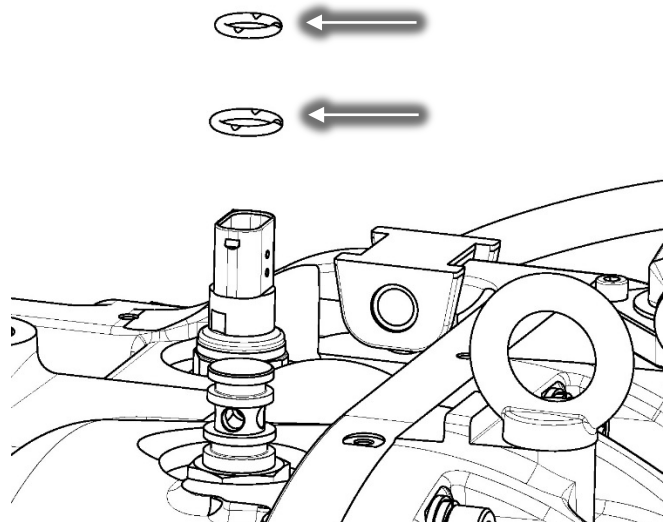

Figure 22 – SCR Manifold Brass Fitting O-ring Removal
31. Remove the two (2) O-rings from the SCR Manifold Return Brass Fitting. Refer to Figure 22 (SCR Manifold Return Brass Fitting O-rings).